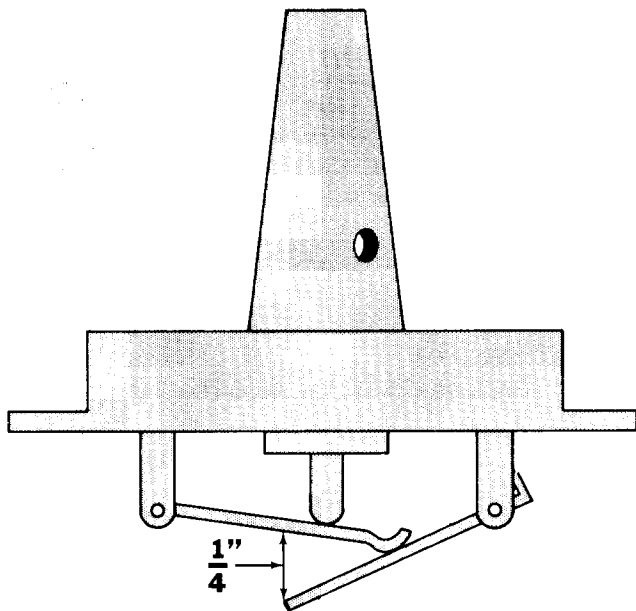

Figure 3. Clearance between Levers
7. Hold float bowl cover upright. (Figure 3) Distance between levers is  $1/4''$ . Bend tab on secondary lever as required.